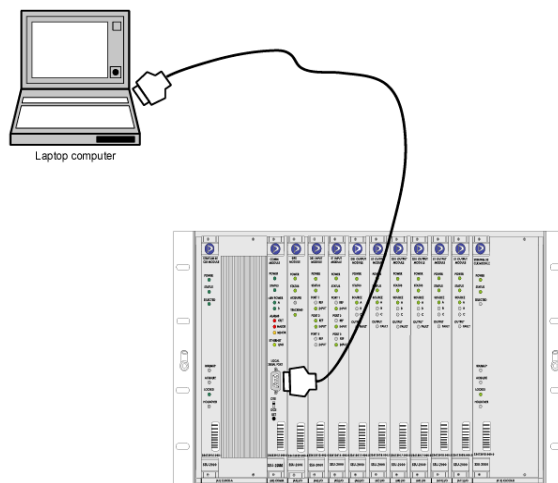

Figure 4-1. Connecting a Terminal to the SSU-2000 Serial Port
Before you can start the LMT software, you must be connected to the SSU-2000 unit. The SSU-2000 unit has three RS-232-C serial communications ports. Attach a terminal device with LMT software installed to one of the ports. Figure 4-1 illustrates how to connect the terminal to the local port on the communications module.
2. Secure the other end of the cable to an SSU-2000 serial port (Figure 4-1).